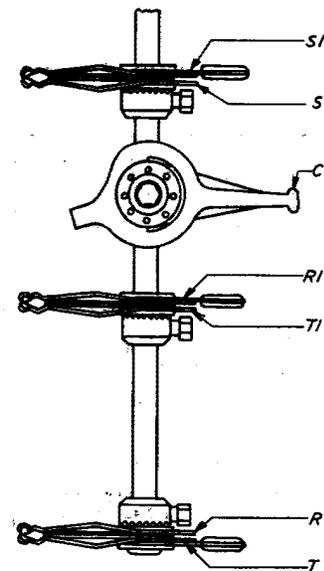

Fig. 92 - Bank Wiper Terminal Designations - 197- and 198-Type Switches
3.03 Wipers: When it is necessary to connect to one or more wipers of a switch, the wipers to which connections should be made are indicated by the symbol WPR followed by the particular designation of that wiper as shown on the associated circuit schematic drawing. The bank wipers referred to in the circuit requirements table appear on the schematic drawing in the same order in which they are located on the switch shaft. Fig. 92 shows the relative location of the wipers on a 200-point line finder and the designations given for them on the schematic drawing. On switches having four bank wipers, the wipers are designated as shown in Fig. 92 except that the added wiper at the bottom has the designation A1 and A.